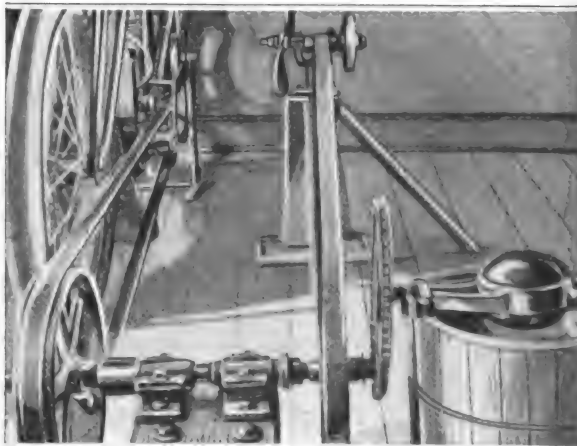
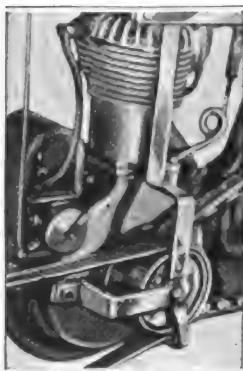
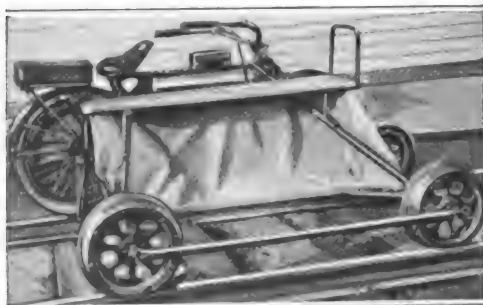

FIG. 1
FIG. 3
FIG. 4
**A** MOTORCYCLE that is used only for transportation or pleasure jaunts is not giving the fullest service to its owner. By providing suitable rigging and devices, all easily made in the home workshop, I use my motorcycle the year round, for a large variety of home and shop duties. The arrangement shown in Fig. 1 permits the use of the engine for driving a cooling fan, an emery grinder, and an ice-cream freezer. Many other home and farm machines may be driven similarly. The work of wash day made lighter by the use of the motorcycle engine is shown in Fig. 2, and a detail of the driving pulley in Fig 3. The machine fitted to a truck for use on railroad tracks is shown in Fig. 4. The vehicle is not impaired for its ordinary use, and the devices used with it are quickly disconnected.